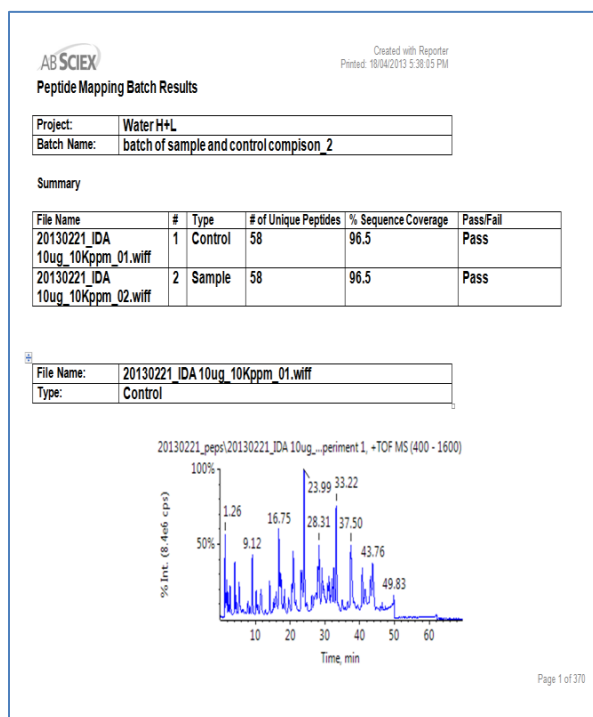

Figure 6: Example of one type of report view.
**Generate Report:** After the batch process is complete, you can create and generate QC reports (Figure 6). The user-changeable QC report template includes batch summary information, detailed peptide results, and graphical XIC, TOF MS, and MS/MS spectra for each of the matched peptides.